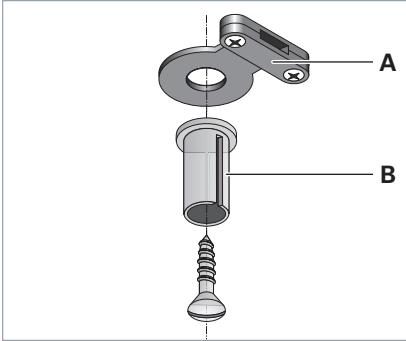

Fig. 3: Mounting ceiling fixture.
- ▶ Screw a ceiling fixture **B** at the connection side of the luminaire with the strain relief **A** and a suitable screw to the ceiling, see Fig. 3.
- ▶ Clamp the connecting cable in the strain relief **A**, see Fig. 3.